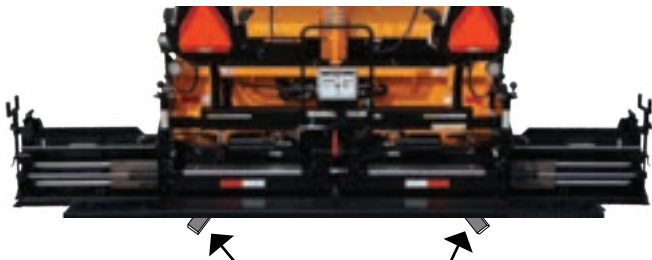

Figure 4-49. Starter Blocks Location
3. To set the depth, you can place small starter blocks **(Figure 4-49)**